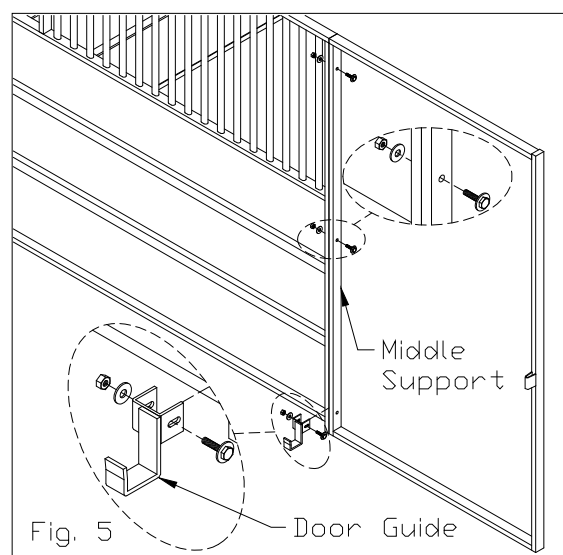

Fig. 5
Finish securing the Front and Frame together using (2) 3/8" x 2-3/4" hex bolts, (4) 3/8" washers and (2) 3/8" lock nuts. (See figure 5.)